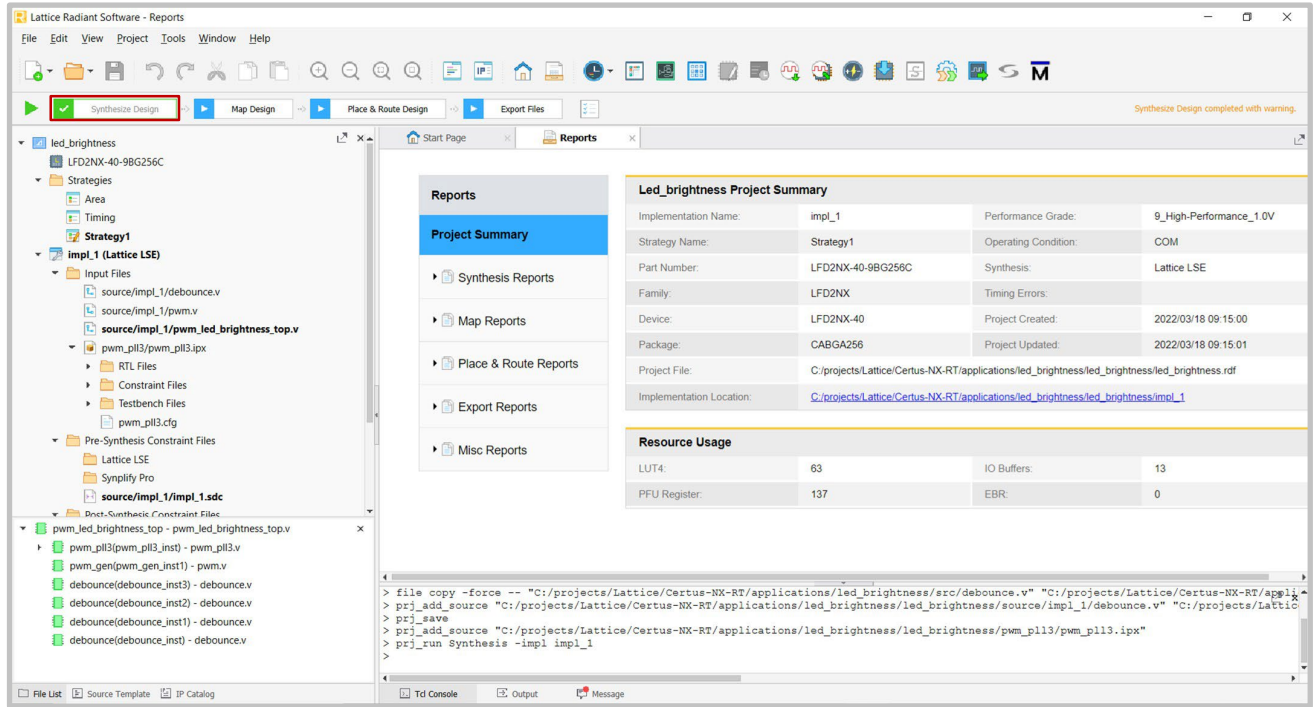

Figure 12: Synthesizing the Design
11. Synthesize the design by clicking on the **Synthesize Design** arrow, see **Figure 12**.